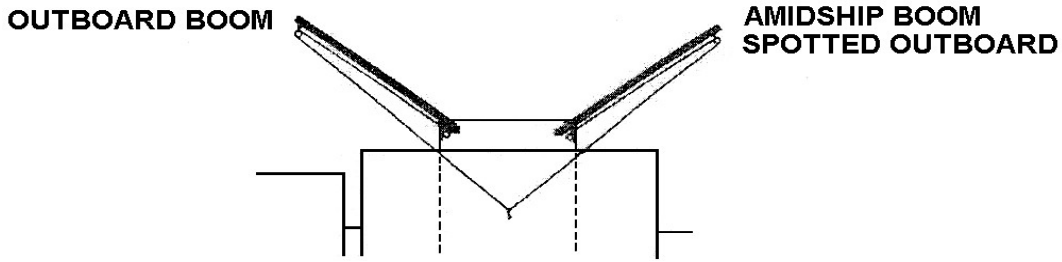

Figure 3-153
3. Direct the rigging of a wing-and-wing rig (see Figure 3-153).